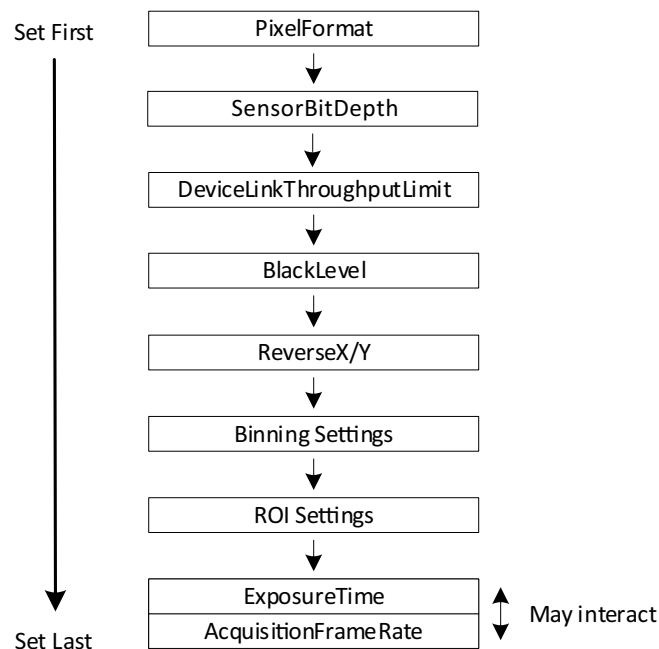

Figure 101: Interdependencies between features
The conversion between time and clock cycles affects control values. Features for pixel format, bandwidth, ROI, exposure time, and triggering are related to each other. Changing values for one feature can change values for another feature. For example, frame rates can be reduced when **PixelFormat** is changed subsequently. Figure 101 shows the interdependencies.
- To avoid readjustments, apply settings in the order shown in Figure 101.